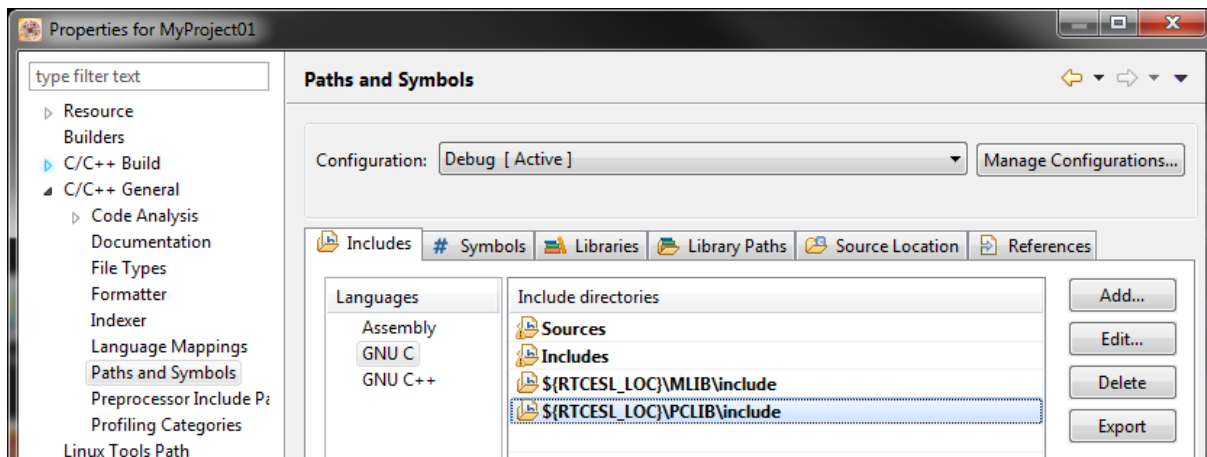

Figure 1-26. Compiler setting
15. In the right-hand dialog, select the Includes tab, and click GNU C in the Languages list. See Figure 1-26.
20. Click OK, and you will see the added in the list. See Figure 1-26. Click OK.